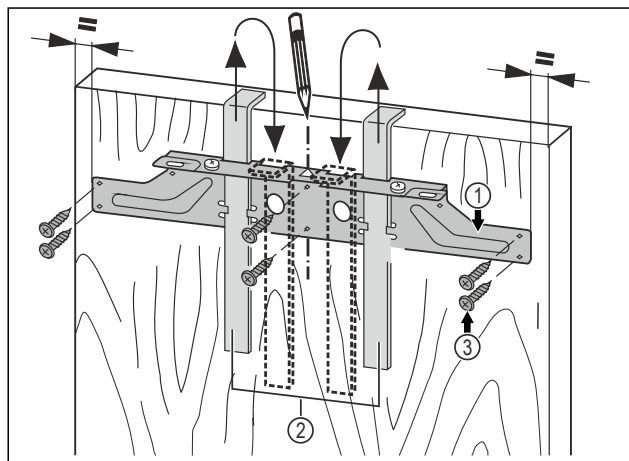

Fig. 42
- Hang the fastening bar Fig. 42 (1) with the mounting aids on the inside of the unit door Fig. 42 (2).
- Align the fastening bar Fig. 42 (1) in the centre of the door.
- Tighten the mounting bar Fig. 42 (1) with at least 6 screws Fig. 42 (3).
- Screw the mounting bar Fig. 42 (1) to the edge with 4 screws Fig. 42 (3).
- Pull the assembly devices Fig. 42 (2) upwards and push them, at an angle, into the receiving openings.